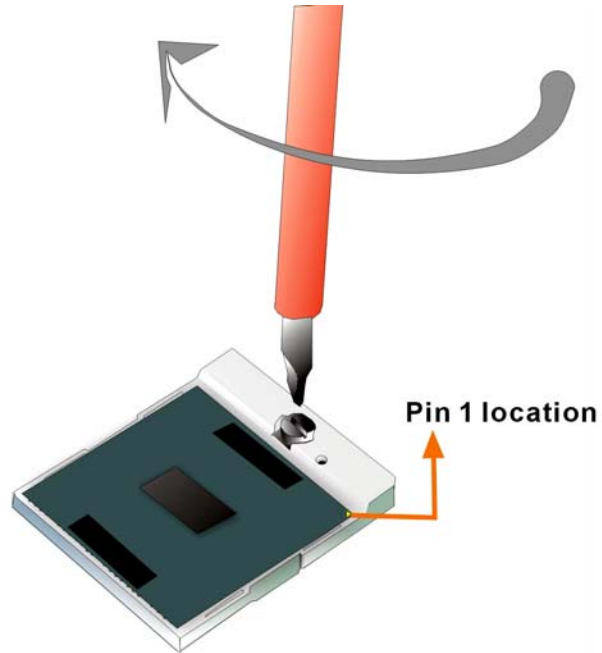

Figure 4-2: Lock the CPU Socket Retention Screw
- Rotate the retention screw into the locked position. (See **Figure 4-2**)